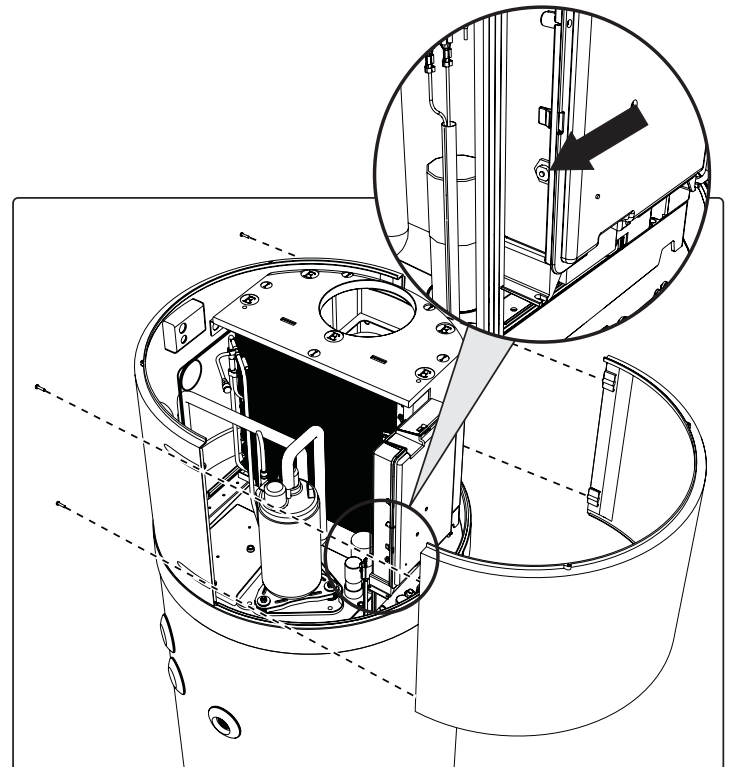

fig. 42 - Front panel removal
- Remove the front panel and manually reset the tripped safety thermostat (fig. 42). In case of intervention, the central pin of the thermostat comes out by about 2 mm.